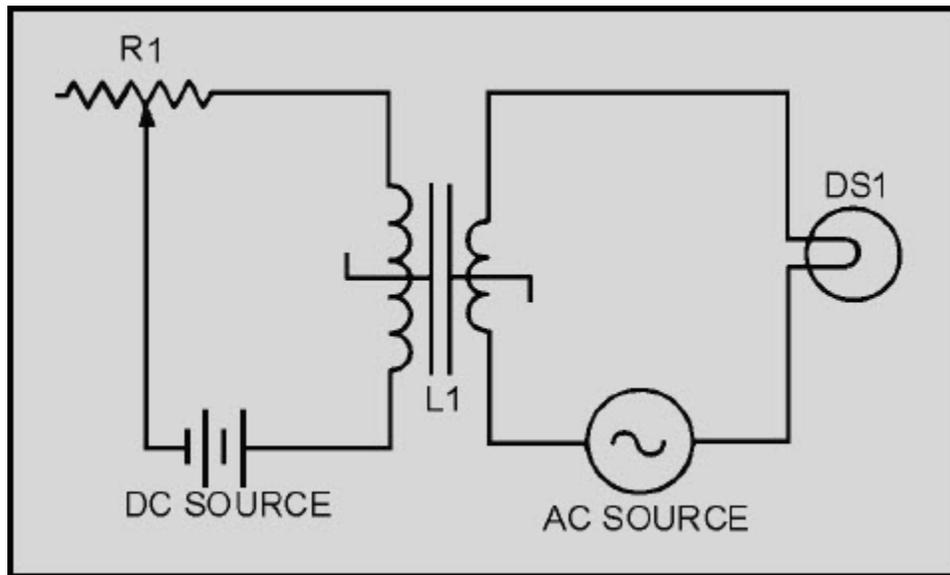

Figure 3-33 Schematic diagram of a simple saturable-core reactor
The schematic diagram of this circuit is shown in figure 3-33. L1 is the schematic symbol for a saturable-core reactor. The control winding is shown with five loops, and the load winding is shown with three loops. The double bar between the inductors stands for an iron core, and the symbol that cuts across the two windings is a saturable-core symbol indicating that the two windings share a saturable core.
*Q-45. What symbol in figure 3-33 indicates a saturable core connecting two windings?*